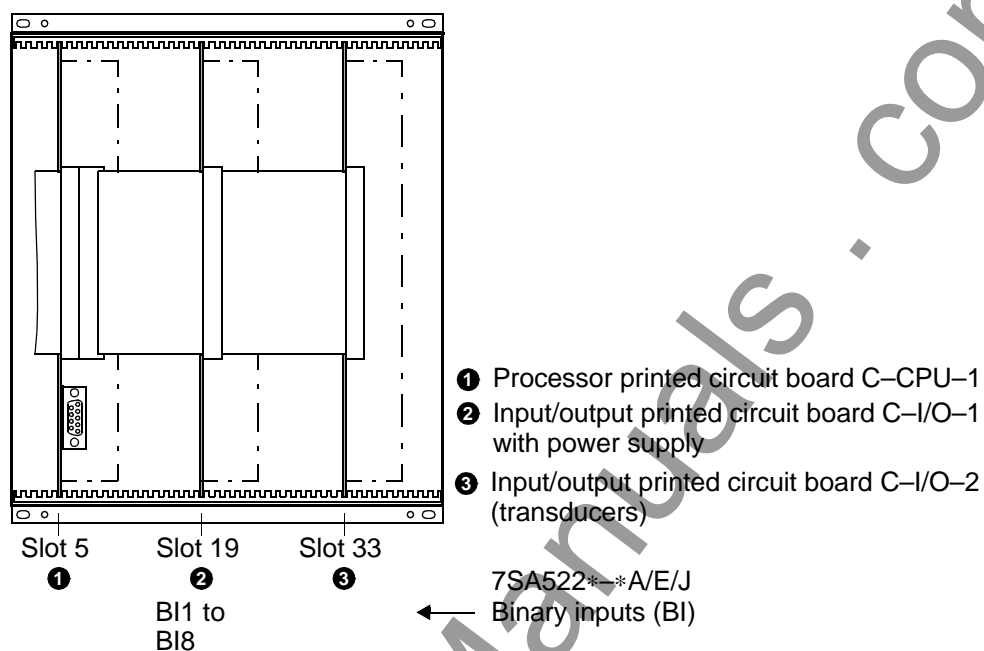
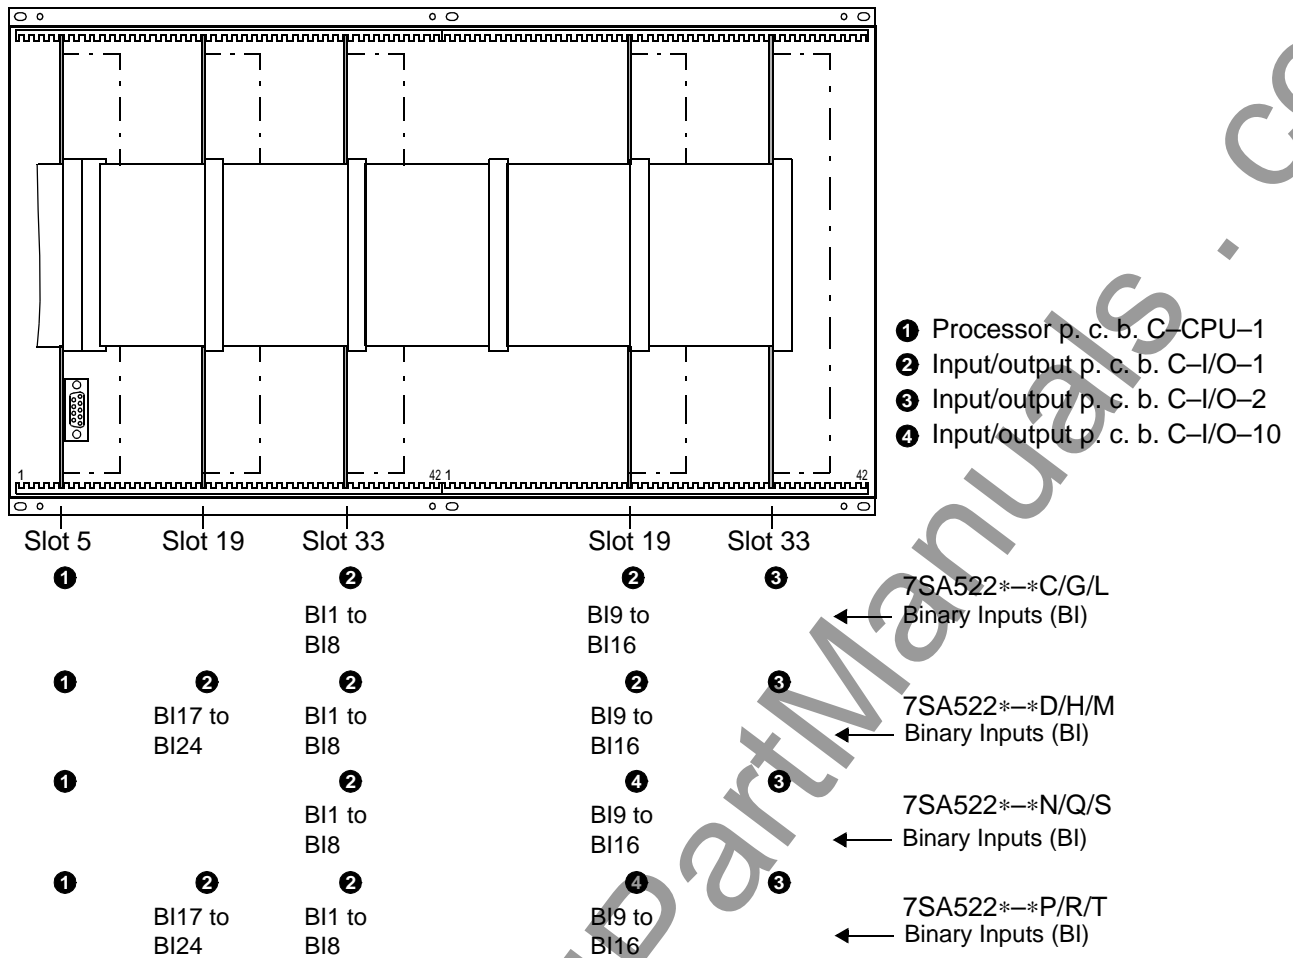

Figure 8-7 Front view of the device with housing size $\frac{1}{2}$ after removal of the front cover (simplified and scaled down)
Figure 8-8 Front view of the device with housing size 1/1 after removal of the front cover (simplified and scaled down)
The allocation of the boards in the housing size $1\frac{1}{2}$ is shown in Figure 8-7, for housing size $1\frac{1}{4}$ refer to Figure 8-8.
- ☐ Refer to Figures 8-7 and 8-8 for the physical arrangement of the printed boards.
- ☐ The order of the boards for housing size $1\frac{1}{2}$ is shown in figure 8-7, for housing size $1\frac{1}{1}$ refer to figure 8-8.
for housing size $1\frac{1}{2}$ on the input/output board I/O-1 (2 in Figure 8-7, slot 19),
for housing size $1\frac{1}{4}$ on the input/output board I/O-1 (2 in Figure 8-8, slot 33 left).
BO16 and BO24 (Figure 8-8, slot 19 left and right);
BO16 (Figure 8-8, slot 19 right);
BO24 (Figure 8-8, slot 19 left).
- for housing size $\frac{1}{2}$ in Figure 8-7, slot 33,
- for housing size $\frac{1}{1}$ in Figure 8-8, slot 33 right.
for housing size $\frac{1}{2}$ ③ in Figure 8-7, slot 33,
for housing size $\frac{1}{4}$ ③ in Figure 8-8, slot 33 right.